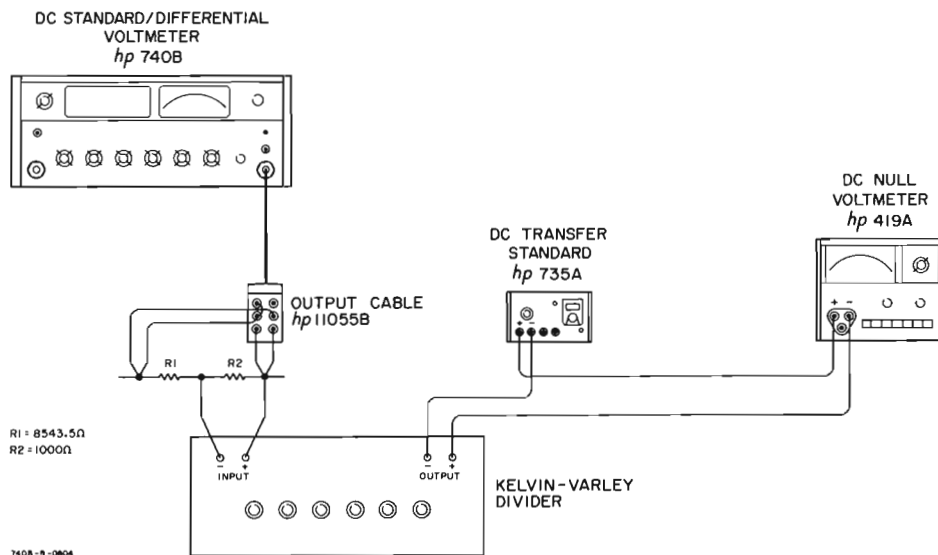

Figure C-5. Calibrating the Transfer Standard to 1 V
- g. Construct the calibration setup shown in Figure C-5.